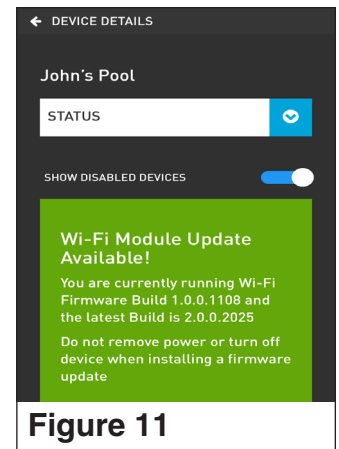

Figure 11
3. If there are available system updates, they will display on the Device Details page (see **Figure 11**).